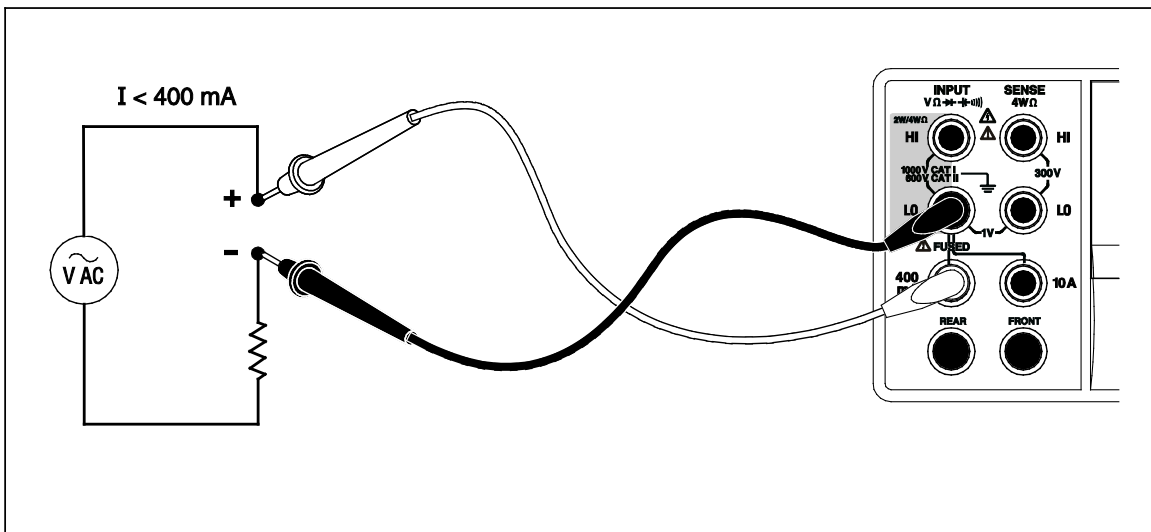
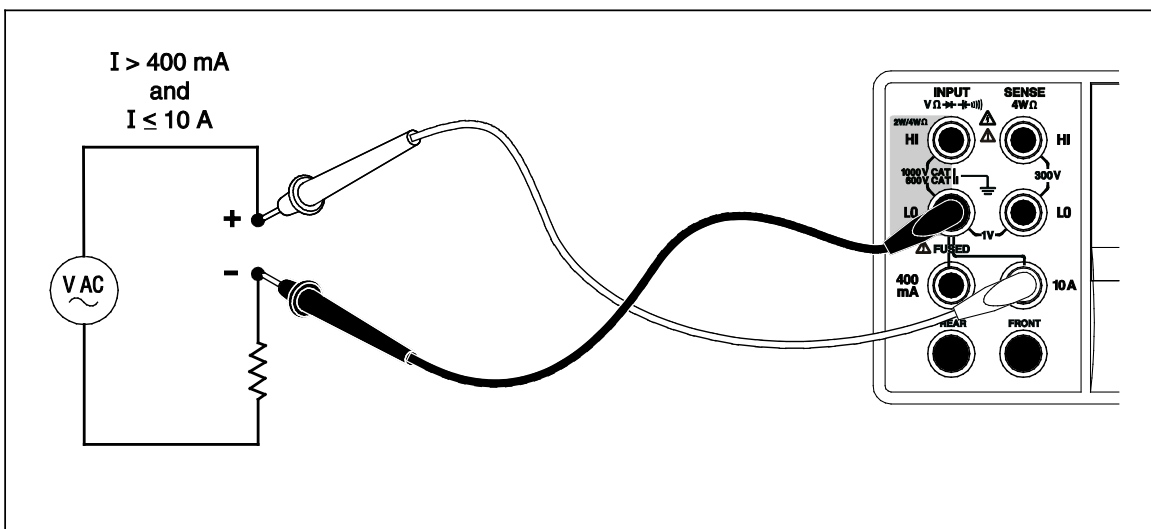

Figure 4-4. Input Connections for Current Measurements Below 400 mA
Figure 4-5. Input Connections for Current Measurements Above 400 mA
The Meter is capable of making both ac and dc current measurements up to 10 A. Two separate input connectors, in conjunction with the **LO** connector, are used for current measurements. For best resolution, current measurements not exceeding 400 mA should be made using the **LO** and **mA** input connectors as shown in Figure 4-4.
Current measurements expecting to be between 400 mA and 10 A are made using the Input LO and 10A input connectors as shown in Figure 4-5.
1. Connect the test leads between the Meter’s input connectors and the measured circuit as shown in Figure 4-4 for currents 400 mA or less or Figure 4-5 for currents up to 10 amps.
1. Connect the test leads between the Meter’s input connectors and the measured circuit as shown in Figure 4-4 or Figure 4-5, based on the anticipated level of current.